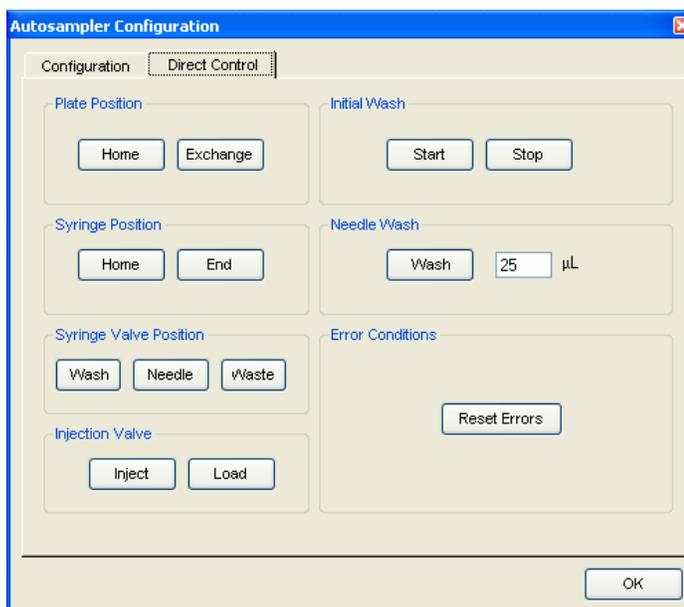

Figure 5-5. Autosampler Configuration Window
- step 4 Flush the switching valve (or an injection valve connected directly to the Eksigent nano LC instrument) by alternately clicking on the **Load Position** and **Inject Position** buttons in the **Valve Manual Control** area. To switch the valve in the nano LC Autosampler, use the Autosampler direct control in the run manager under **Devices > Autosampler Device Settings > Direct Control Tab** (Figure 5-5).